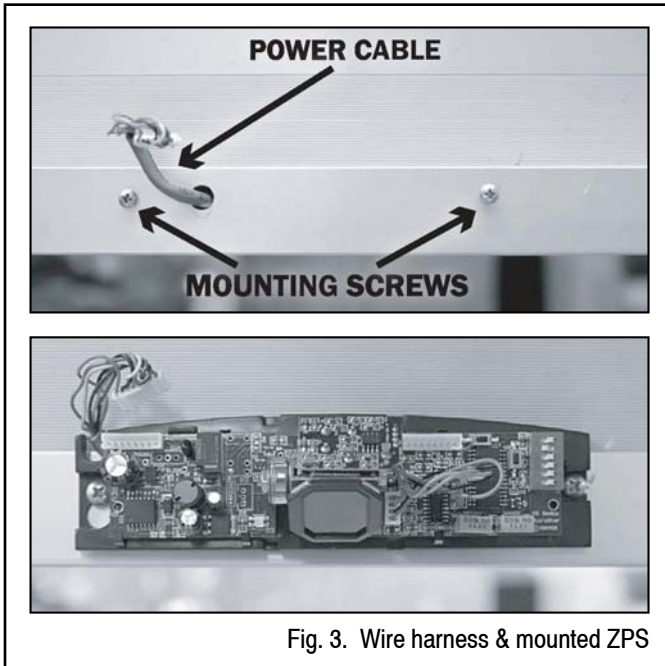

Fig. 3. Wire harness & mounted ZPS
2. Peel and attach the self-sticking mounting template (C) at the desired location. Drill 3 holes noted on template (1 wire passage hole, 2 screw pilot holes).
3. Insert mounting screws partially into holes. Route the wire harness through the wire passage hole as shown (Fig. 3). Install the ZPS-100 onto the mounting screws and tighten.